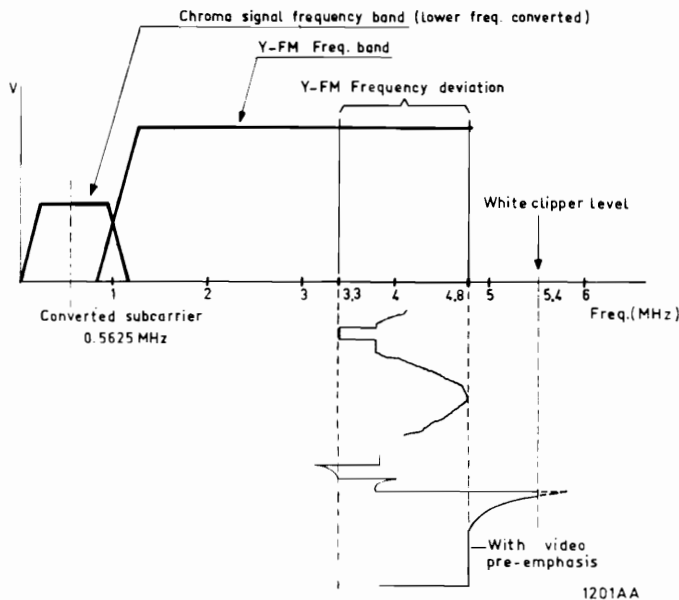

Fig. II-6
The luminance signal is converted to FM in the FM modulator, a sweep width of 1.5 MHz corresponds to peak white, and the frequency spectrum of the modulator is 3.3 to 4.8 MHz (Fig. II-6).
- The signal is submitted to a white clipper (Fig. II-6)